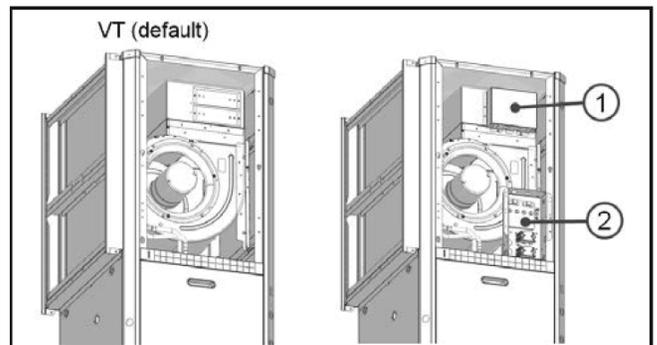
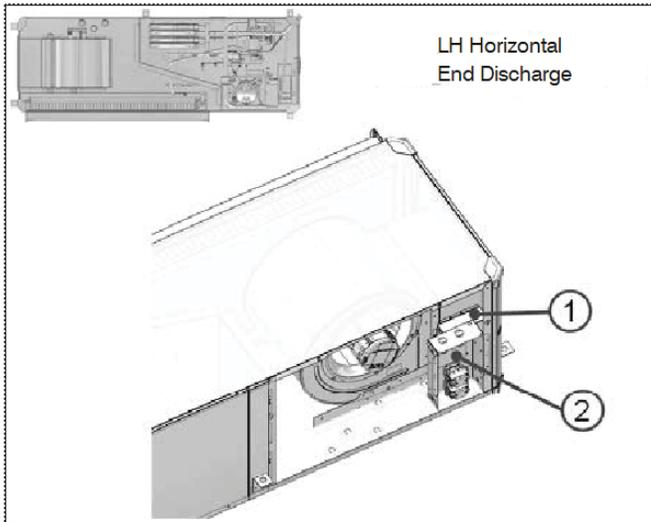

Fig. 1 – Electric Heater Element Cover (1) and Electric Heat Control Box (2) Location - Vertical Configuration A210067
Fig. 4 – Electric Heater Element Cover (1) and Electric Heat Control Box (2) Location - LH Horiz. End Discharge Config. A210069
The Electric Heat field installed kit contains two main electrical enclosures: Electric Heat Control Box and Electric Heat Elements, both are located in the blower compartment. (Fig. 1 through Fig. 4) The control box attaches to the corner post and the heat elements to the blower heater collar in the blower compartment.
1. Install heater control box per Fig. 1 - 4. Orient the heater control box with the contact(s) toward the bottom.